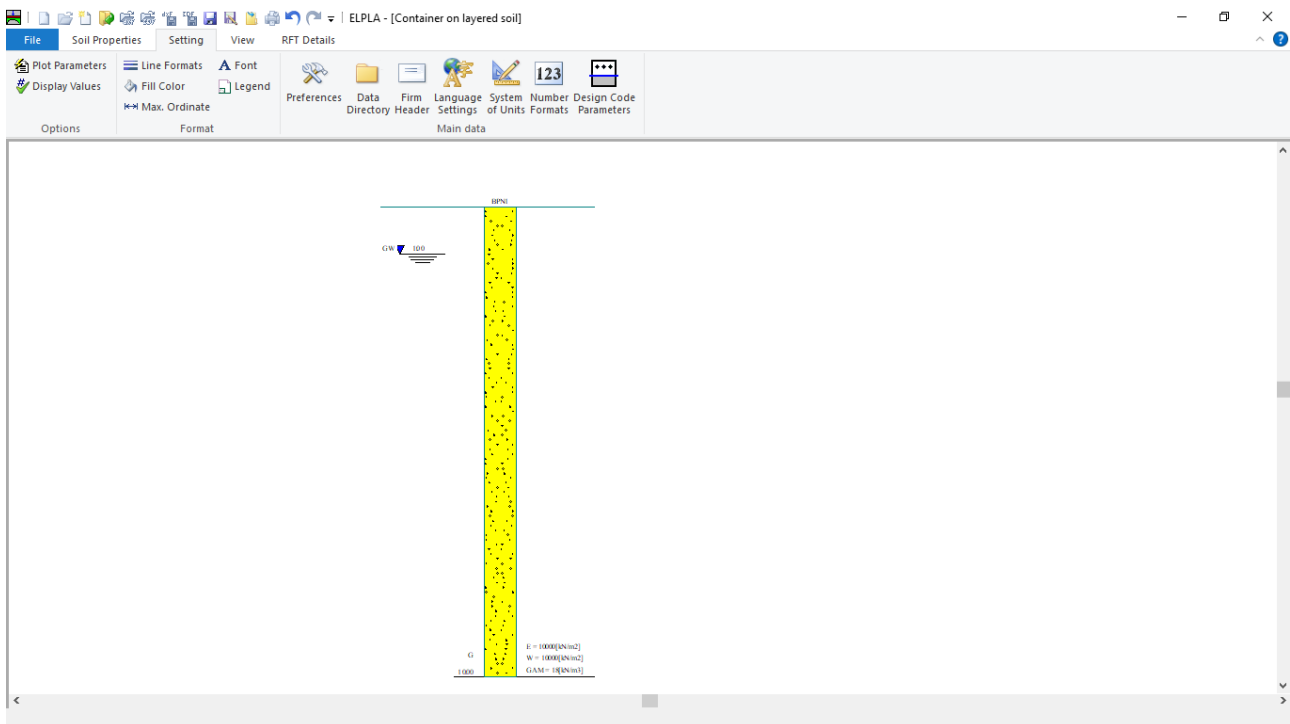
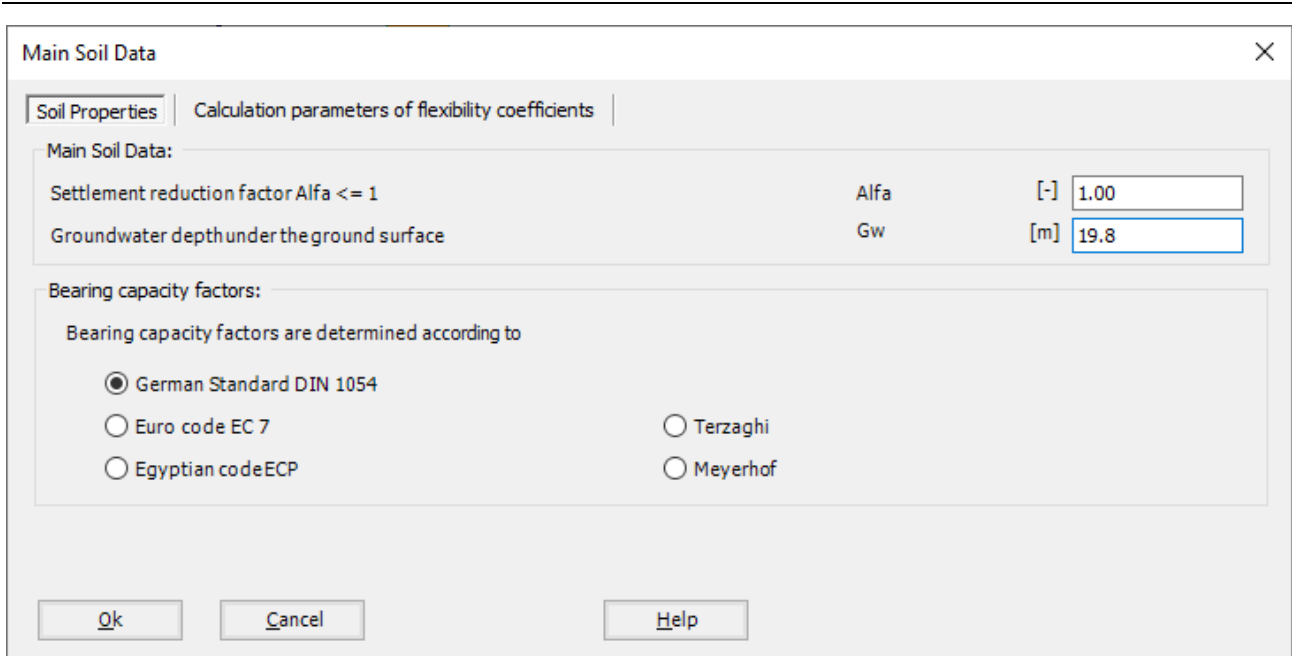

Figure 12.12 "Soil Properties" window with a default-boring log
Figure 12.15 "Main Soil Data" dialog box
To define the soil properties, choose "Soil Properties" command from "Data" Tab. The following "Soil Properties" Window in Figure 12.12 appears with a default-boring log.
In Figure 12.12, soil properties are defined through the "Data" menu, which contains the following two commands:
- Choose "Soil Data" command from "Data" menu in the window of Figure 12.12
To enter the main soil data for all layers, choose "Main Soil Data" command from "Data" menu in Figure 12.12. The following dialog box in Figure 12.15 appears with default main soil data. The main soil data for the current example, which are required to be defined, are the settlement reduction factor  $\alpha$  [-] and the groundwater depth under the ground surface  $G_w$  [m]. Any other data corresponding to main soil data are not required in this example. Therefore, the user can take these data from the default soil properties.
In the dialog box of Figure 12.15, enter the settlement reduction factor  $\alpha$  [-] and the groundwater depth under the ground surface  $G_w$  [m]. Then click "OK" button.
- Choose "Save" command from "File" menu in Figure 12.12 to save the data of boring log
- Choose "Close" command from "File" menu in Figure 12.12 to close "Soil properties window and return to *ELPLA* main window.